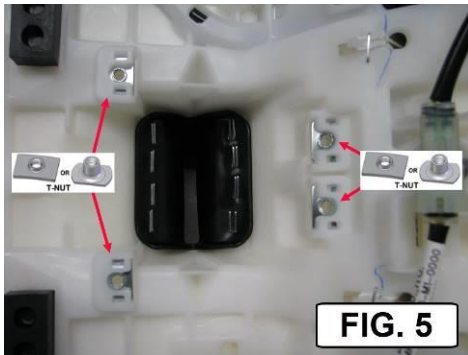

FIG. 5
6. INSERT THE FOUR T-NUTS INTO THE SLOTS IN THE BOTTOM OF THE SEAT AS SHOWN IN FIG. 5. IF NEEDED USE SOME SMALL PIECES OF TAPE TO HELP HOLD THE T-NUTS IN PLACE.